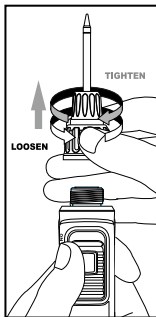

Fig.4
1. Unscrew old tip by rotating **Locking Nut** counterclockwise. (Fig. 4)
2. Screw in new tip by rotating **Locking Nut** clockwise. (Fig. 4)